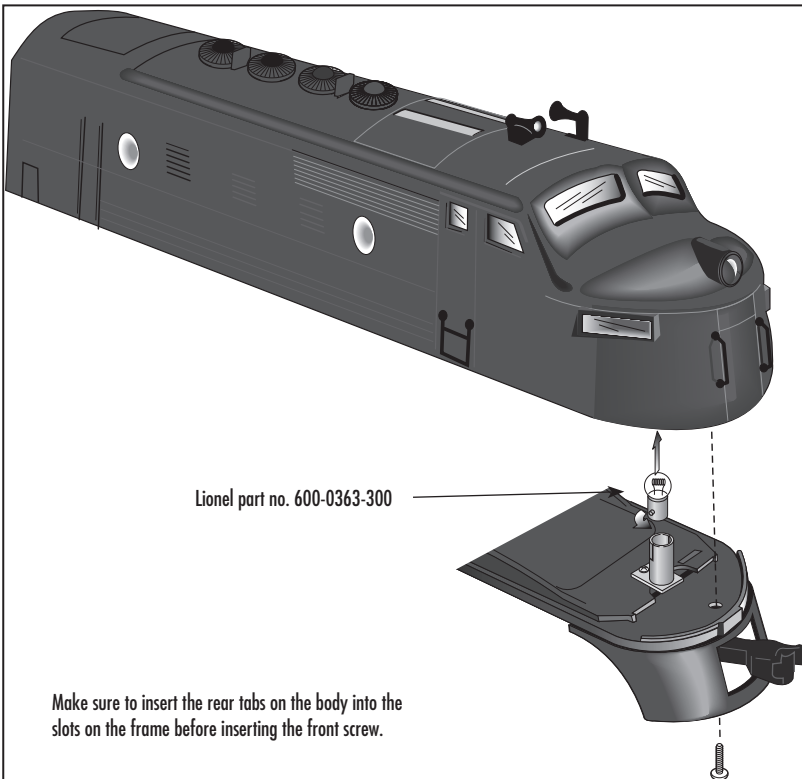

Figure 7. Lamp replacement
1. Remove the front screw on the underside of the frame and lift the body up slightly, pulling it forward to release the two rear clips from the frame slots. See Figure 7 on page 11.
2. To remove the lamp, gently push the lamp down and turn counter clockwise to disengage the lamp from the socket. Refer to Figure 7.